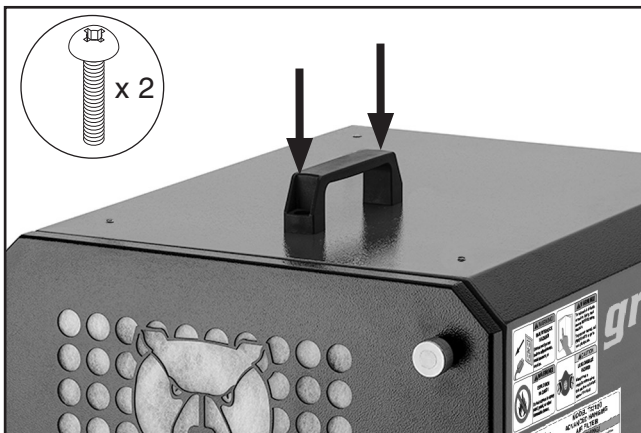

Figure 7. Handle installed.
1. Install handle using (2) $\frac{1}{4}$ "-20 x $\frac{5}{8}$ " Phillips head screws (see **Figure 7**).